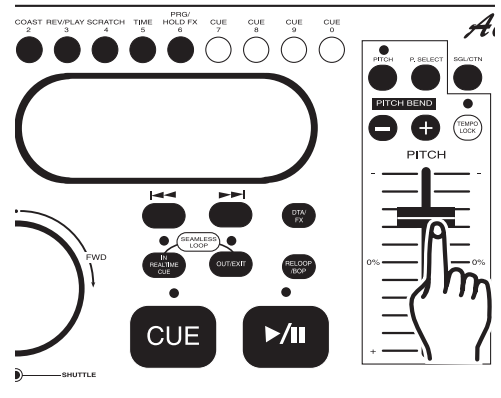

Figure 13
3) Press the **OUT/EXIT BUTTON (28)** to set the ending point for your **SEAMLESS LOOP** (Figure 13). The **IN REAL-TIME CUE BUTTON (26)** and **OUT/EXIT BUTTON (28)** LEDs will begin to flash indicating **SEAMLESS LOOP** mode has been activated.